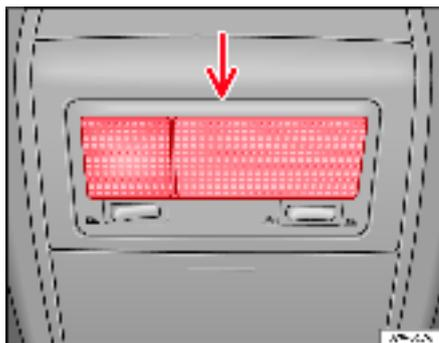

Fig. 168 Interior light
- Insert a fine screwdriver or similar between the casing and the glass (arrow) ⇒ fig. 168 and carefully remove the glass.